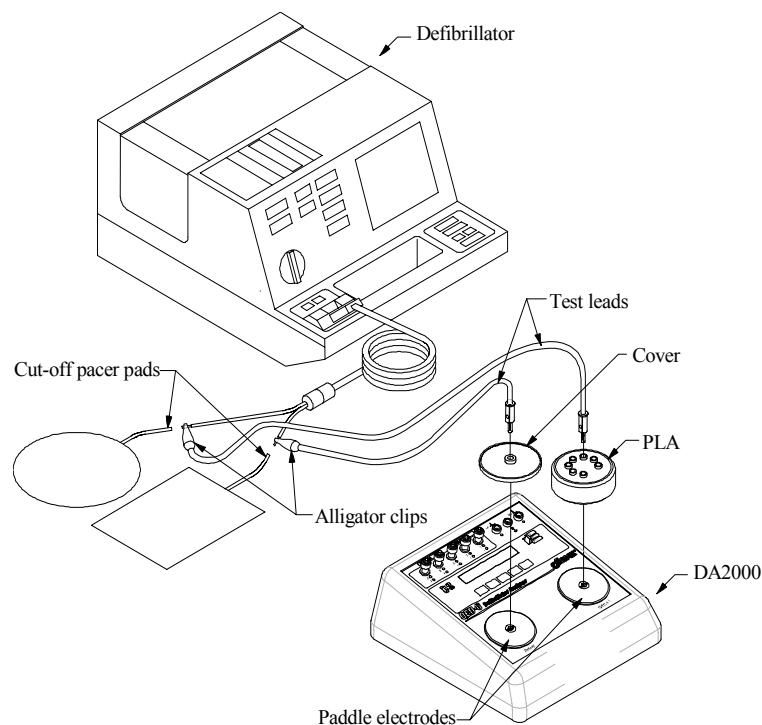

Figure 1. Connecting the PLA, DA-2000P and Defibrillator
- 1) Attach the *PLA* to either paddle electrode of the *DA-2000P*, by placing it on top of the electrode. (See Figure 1.)